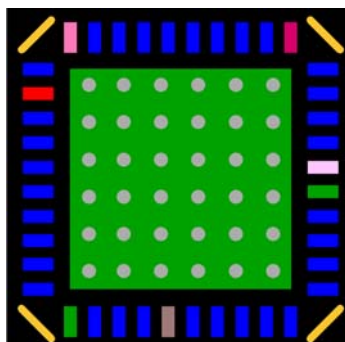

FIGURE 77. RECOMMENDED LAYOUT PATTERN FOR VIAS IN THE IC BOTTOM PAD
6. Place multiple vias under the thermal pad of the IC. Connect the thermal pad to the ground copper plane with as large an area as possible in multiple layers to effectively reduce the thermal impedance. Figure 77 shows the layout example for vias in the IC bottom pad.